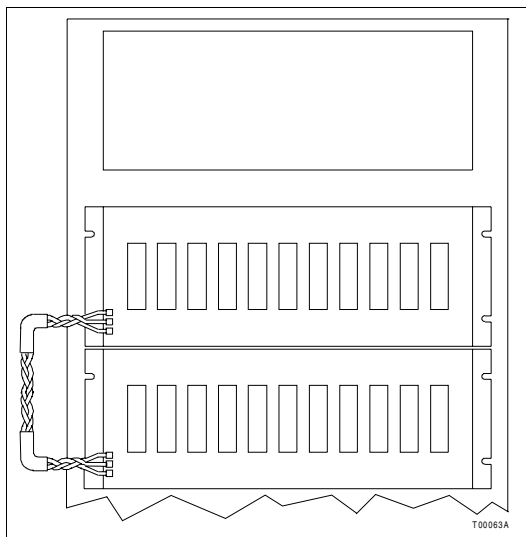

Figure 3-2. Controlway Cable Installation
1. Attach one end of the cable (twisted three-wire) to the bottom three tabs on the lower left of the MMU backplane (facing from behind). Refer to Figure 3-2.